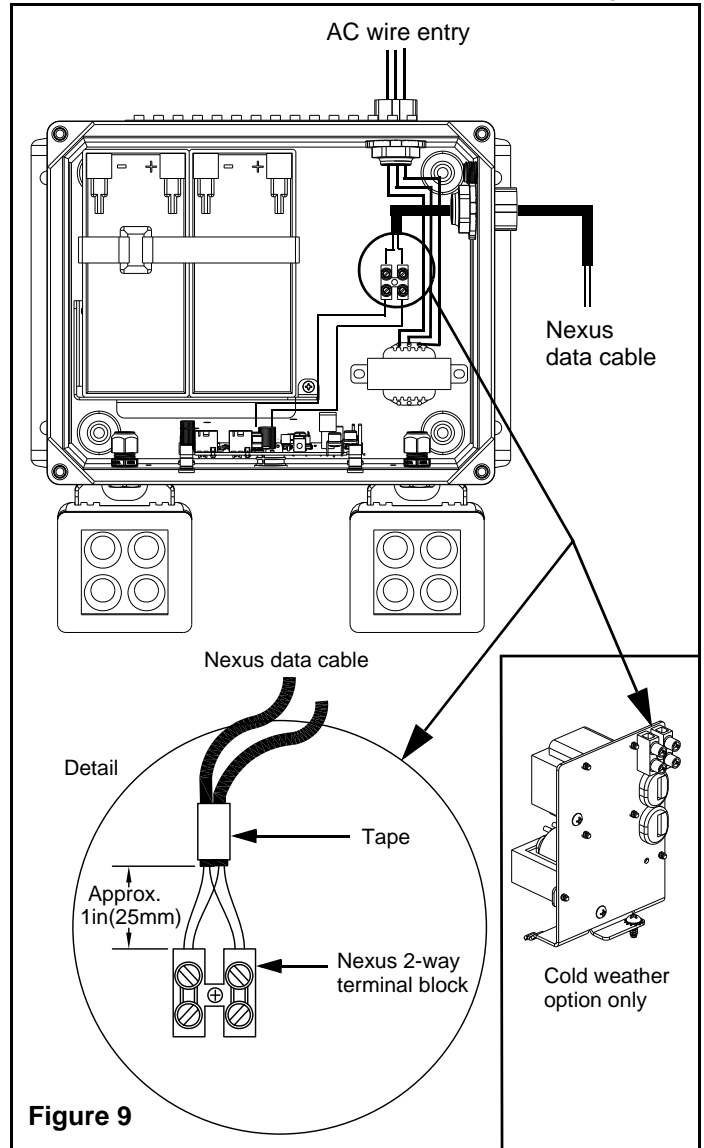

Figure 9
- b. NEXUS wired (-NEX): Install a water-tight hub (listed for Nema-4X) on the conduit and pass the hub through the cabinet hole fastening the nut to ensure a water-tight entry. If necessary, seal with silicone or equivalent caulking (not provided) to prevent water leaking into the cabinet. Route the Nexus data cables into the unit through the conduit and strip 1in(25mm) of the double insulation (see detail in figure 9). The two cables are identical and both contain 2 wires of different colors: color A and color B. Gather the color A wire from each cable, and connect them to the same pole on the terminal block. Gather the color B wire from each cable, and connect them to the other pole on the terminal block. The result must be 2 wires of the same color in each pole on the terminal block (see details in figure 9).